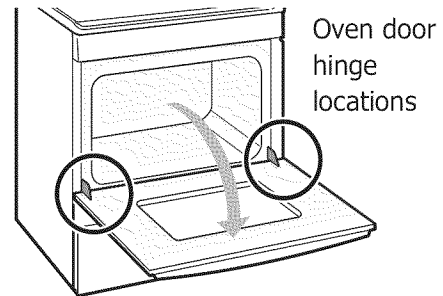

Figure 47: Door hinge location
1. Open oven door completely, horizontal with floor (See Figure 47).
3. Fully open the oven door, horizontal with floor (Figure 47).